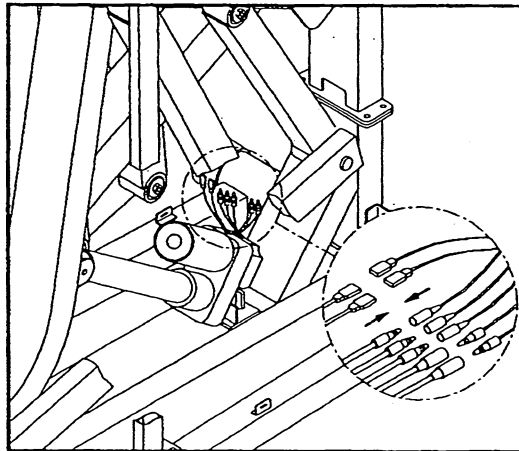

Fig.9-1
2.Unplug the five harnesses and two connectors of the VR (see fig.9-1).